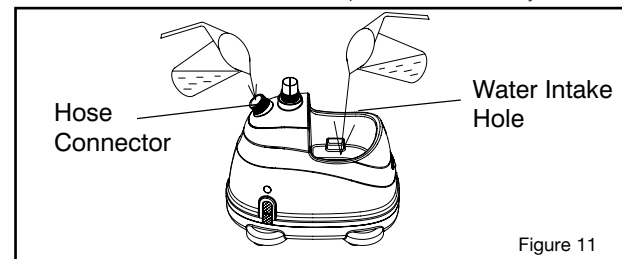

Figure 11
- Slowly pour the water-vinegar mixture into the hose connector (Fig. 11).